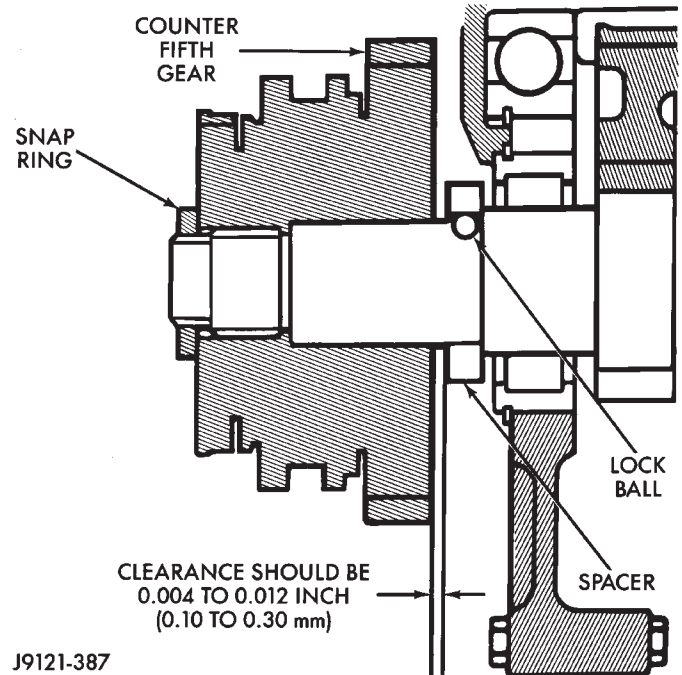

Fig. 27 Measuring Counter Fifth Gear Thrust Clearance
(1) On AX 5, measure fifth counter gear thrust clearance with feeler gauge (Fig. 27). Clearance should be 0.10 - 0.30 mm (0.004 - 0.012 in.).